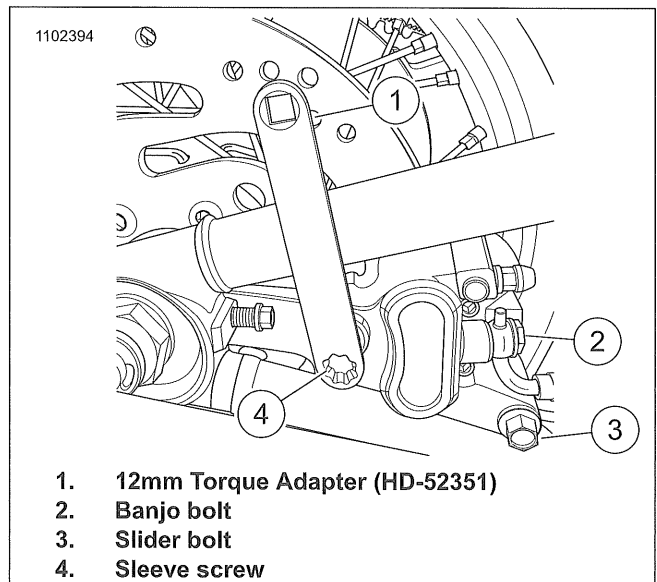

Figure 3-47. 12mm Torque Adapter (HD-52351)
1. See Figure 3-47. Using torque adapter.